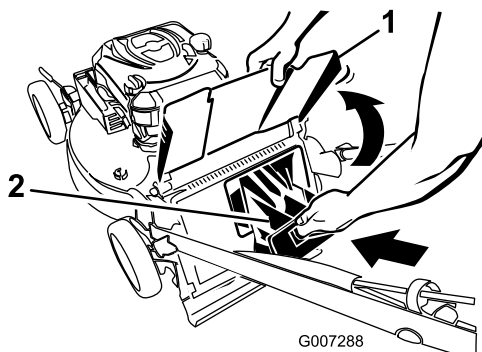

Figure 23
4. Install the rear discharge plug (Figure 23).